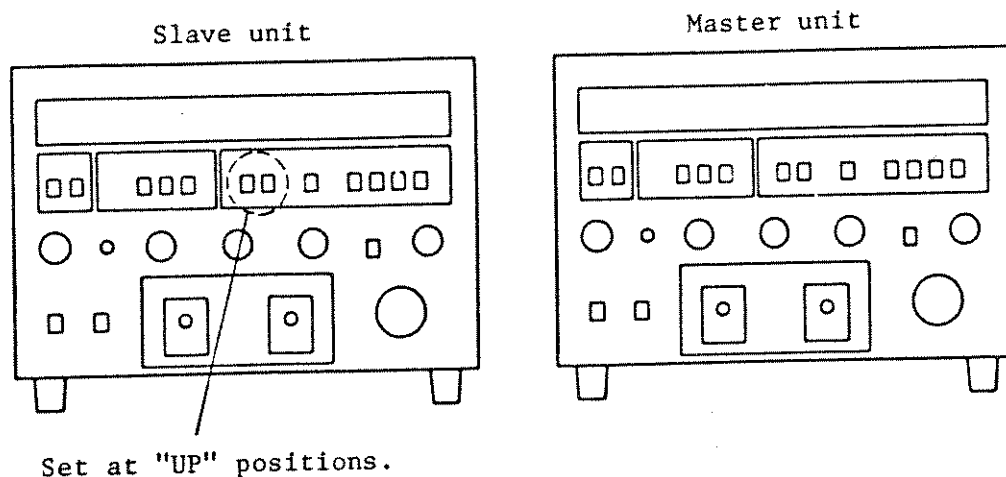

Figure 2-15-2
- Set both the C.C RANGE push buttons for each of the slave units, 60 A and 6 A, at "UP" position, as shown in Fig. 2-15-2.